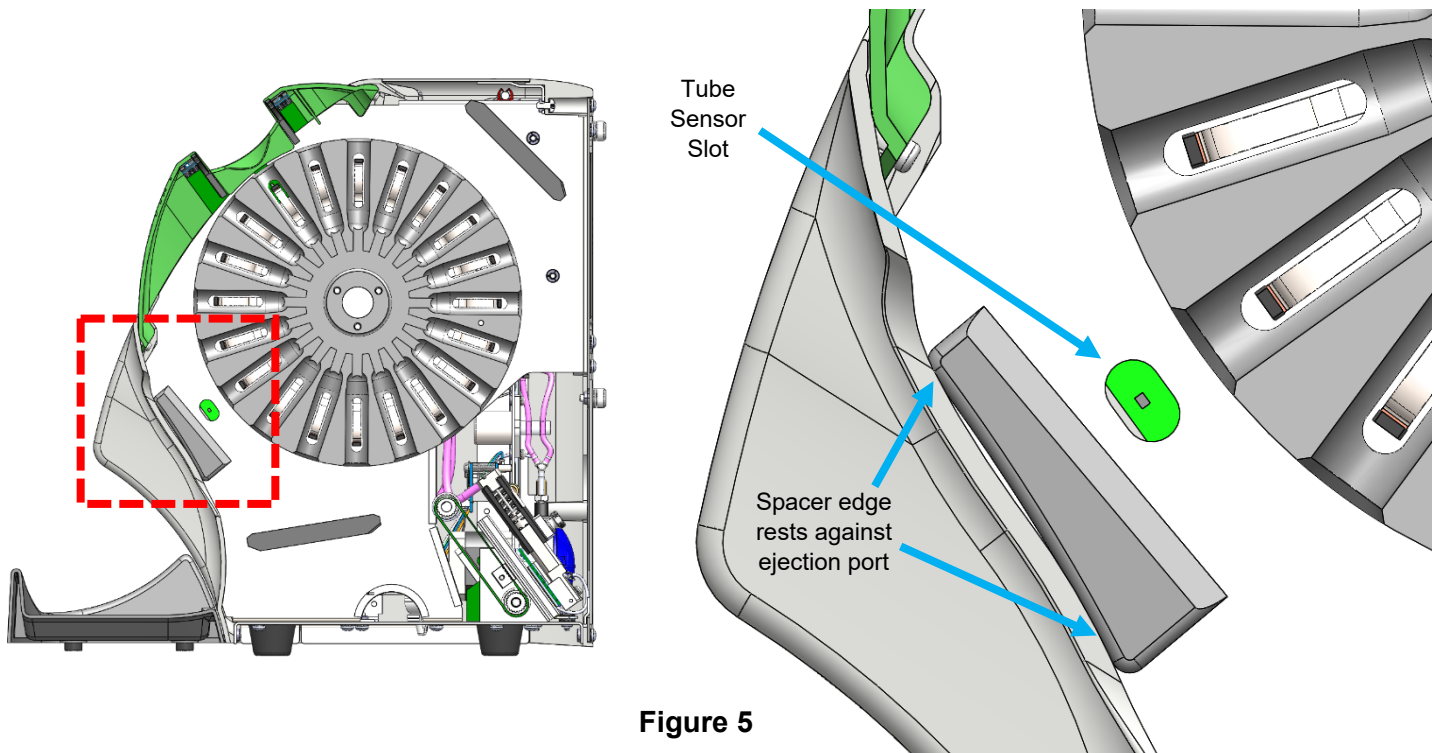

Figure 5
4. Install the Ejection Port Spacer Sub Assembly onto the left metal wall from Step 1. Stick fingers onto the loop of tape formed in step 2 to assist in positioning the spacer inside the instrument. Reference Figure 5 for this step.